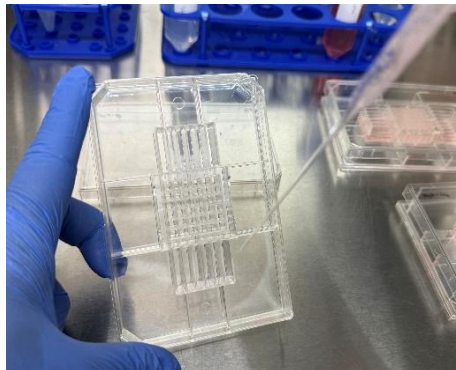

Figure 11. Vacuum aspiration of the old medium from the far end of the lower reservoirs.
26. While holding the perfusion plate at approximately a 45° angle, allow the old cell culture medium to drain toward the lower reservoirs. Aspirate and remove the medium completely from the far end of the lower reservoirs using a Vacusafe vacuum aspiration system (Integra Biosciences) (**Fig. 11**).